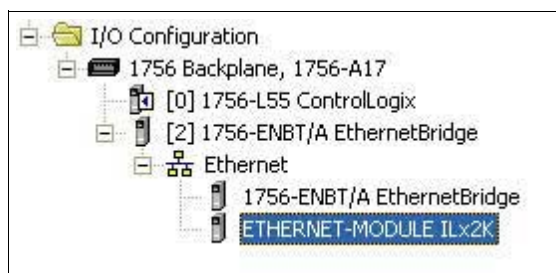
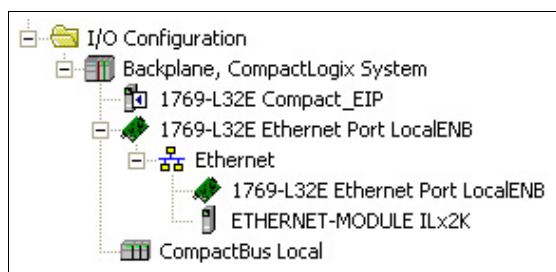

Figure 7.20 RSLogix 5000 - "I/O Configuration" with Control Logix
Figure 7.21 RSLogix 5000 - "I/O Configuration" with Compact Logix
- ◁ The **I/O Configuration** shows the product (Figure 7.20: Control Logix, Figure 7.21: Compact Logix).